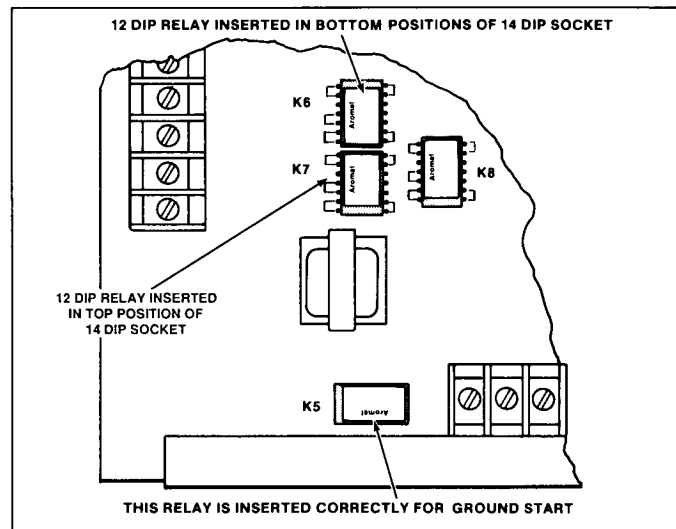

Figure 6. Plug-in Relay Installation
7.3 Installation - The plug-in relays (Radionics model D136) are packaged as a 12 DIP. The sockets (K5-K8) are a 14 DIP package. The sockets are designed so relays can be inserted using either the top or the bottom positions of the package as shown in Figure 6.